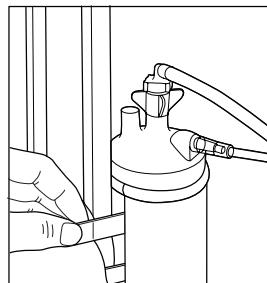

Figure 4
8. Attach the humidifier accessory pouch to the mobile cart (see Figure 4).